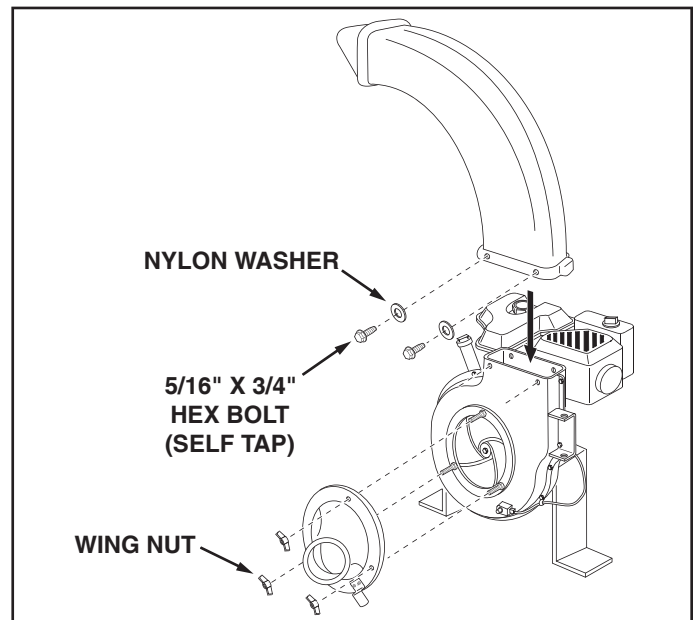

FIGURE 5
- Attach the plastic elbow to the top of the engine housing using four 5/16" x 3/4" hex bolts (self tapping) and nylon washers. See figure 5.
- Connect the hose adapter to the engine housing by fastening three wing nuts to the pre-assembled bolts in the engine housing. See figure 5.